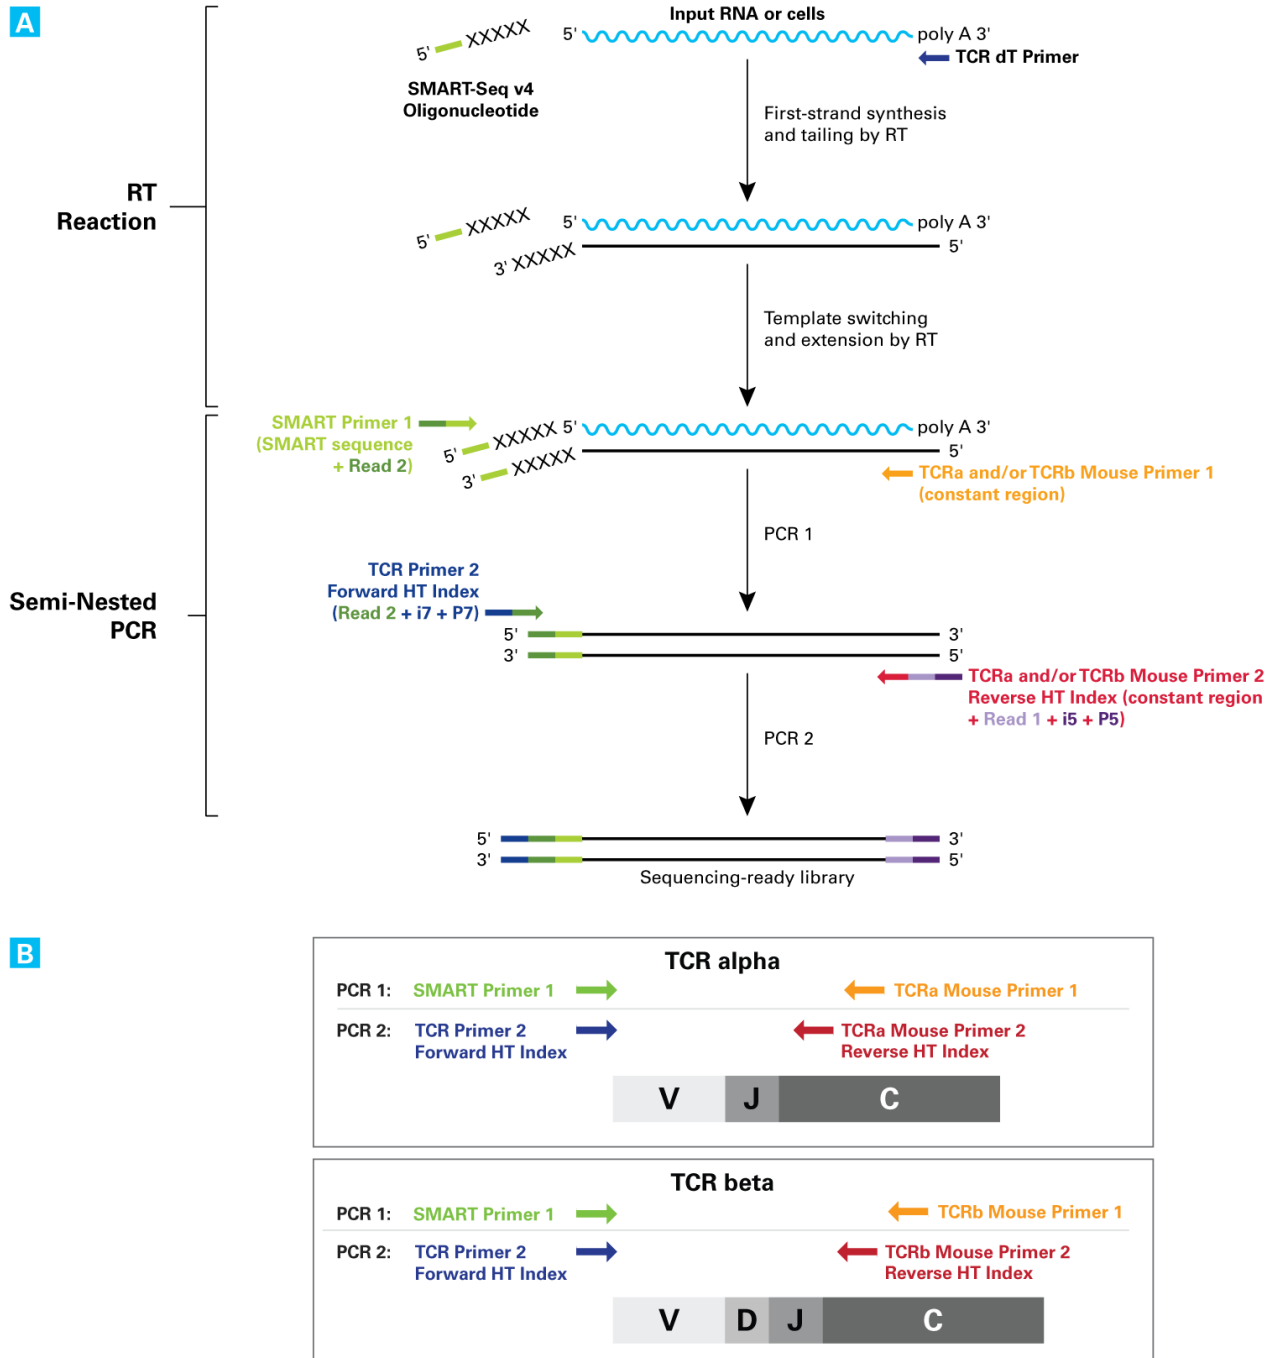

Figure 2. Schematic of technology and workflow for SMARTer Mouse TCR a/b Profiling Kit.
The SMARTer Mouse TCR a/b Profiling Kit leverages SMART technology (Switching Mechanism at 5' End of RNA Template) and employs a 5' RACE-like approach to capture complete V(D)J variable regions of TCR transcripts (Figure 2). First-strand cDNA synthesis is dT-primed (TCR dT Primer) and performed by the MMLV-derived SMARTScribe™ Reverse Transcriptase (RT), which adds non-templated nucleotides upon reaching the 5' end of each mRNA template. The SMART-Seq® v4 Oligonucleotide anneals to these non-templated nucleotides, and serves as a template for the incorporation of an additional sequence of nucleotides into the first-strand cDNA by the RT. (This is the template-switching step.) This additional sequence—referred to as the “SMART sequence”—serves as a primer-annealing site for subsequent rounds of PCR, ensuring that only sequences from full-length cDNAs undergo amplification.